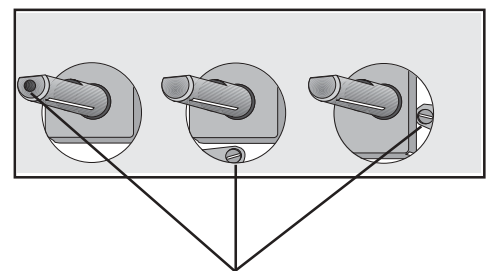

Fig. 8
- With a thin screwdriver, adjust the by-pass screw (see Fig. 8). If changing from natural gas to liquid gas, completely tighten clockwise the screw, until a small regular flame is obtained. If changing from liquid gas to natural gas unscrew about 1/4 turn the by-pass screw, until a small regular flame is obtained.